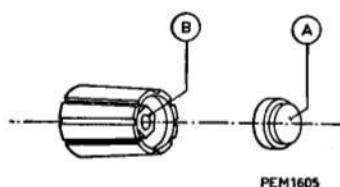

Fig. 8. Removing the knobs
B. REMOVING THE ROTARY KNOBS (Fig. 8)